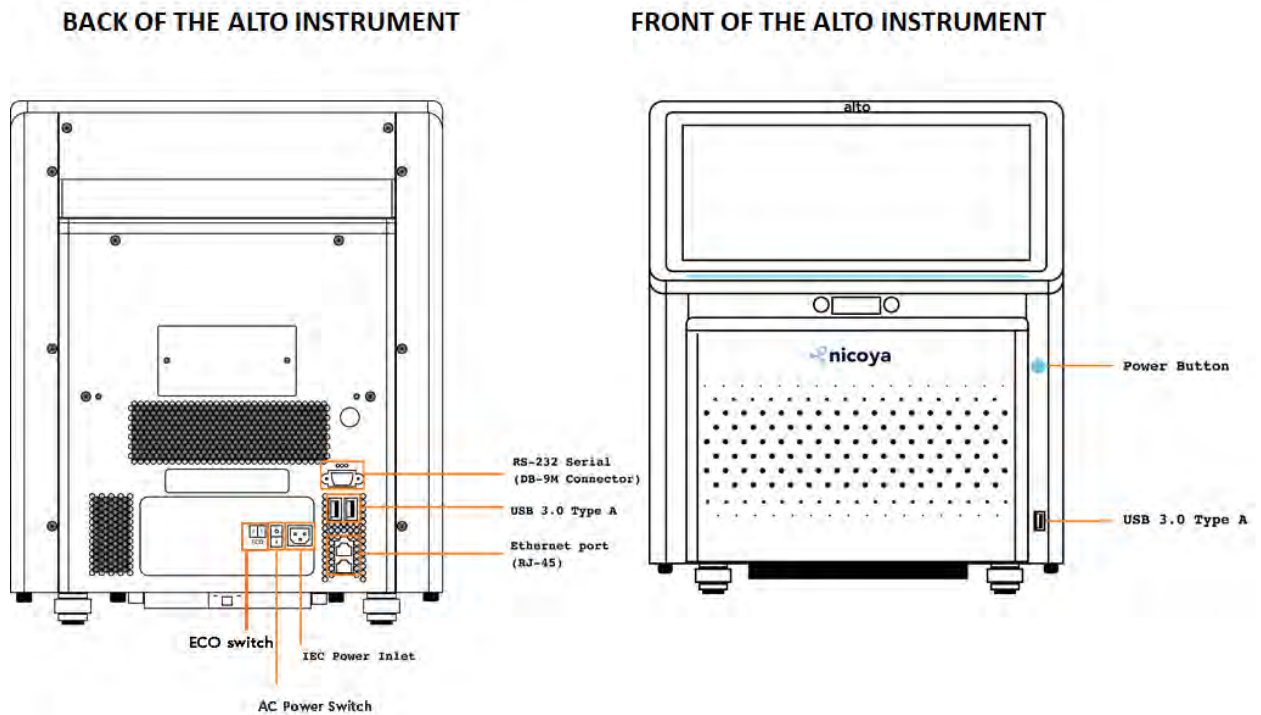

Figure 4.19: Location of the power button (labelled AC Power Switch) at the back (left) and front (right) of the instrument.
1. Use the power switch on the back of the instrument as shown in Figure 4.19 (left) to power the instrument ON. This button must be toggled on (as shown in Figure 4.18) for the instrument to be powered on. Press the power button in the front of the instrument for 3-5 seconds to turn the instrument on.
2. The ECO switch (highlighted in Figure 4.19) should always be in the OFF position.